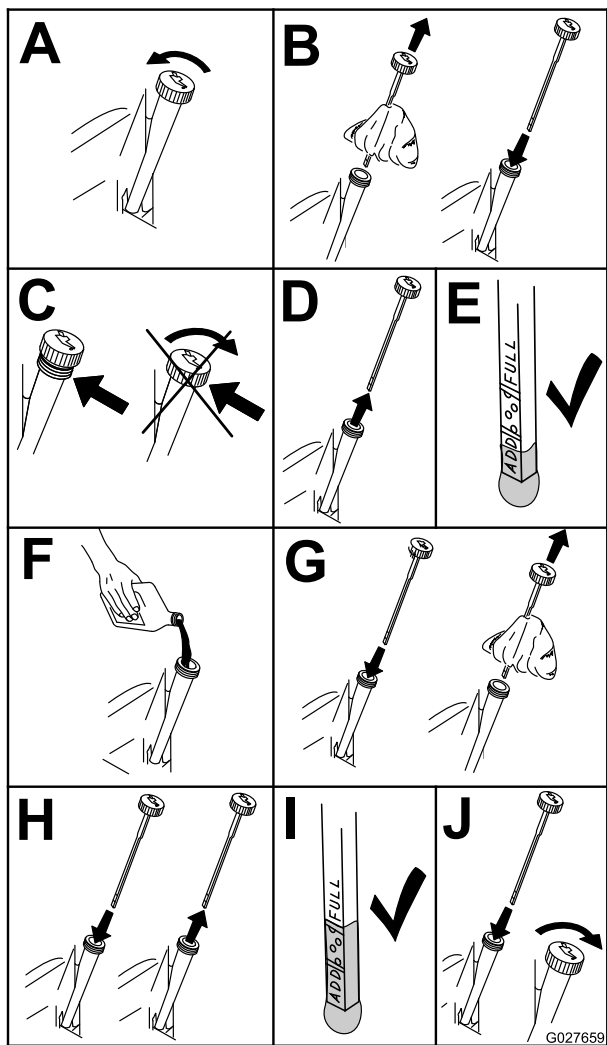

Figure 46
- Stop the engine, remove the key, and wait for all moving parts to stop before leaving the operating position (Figure 46).